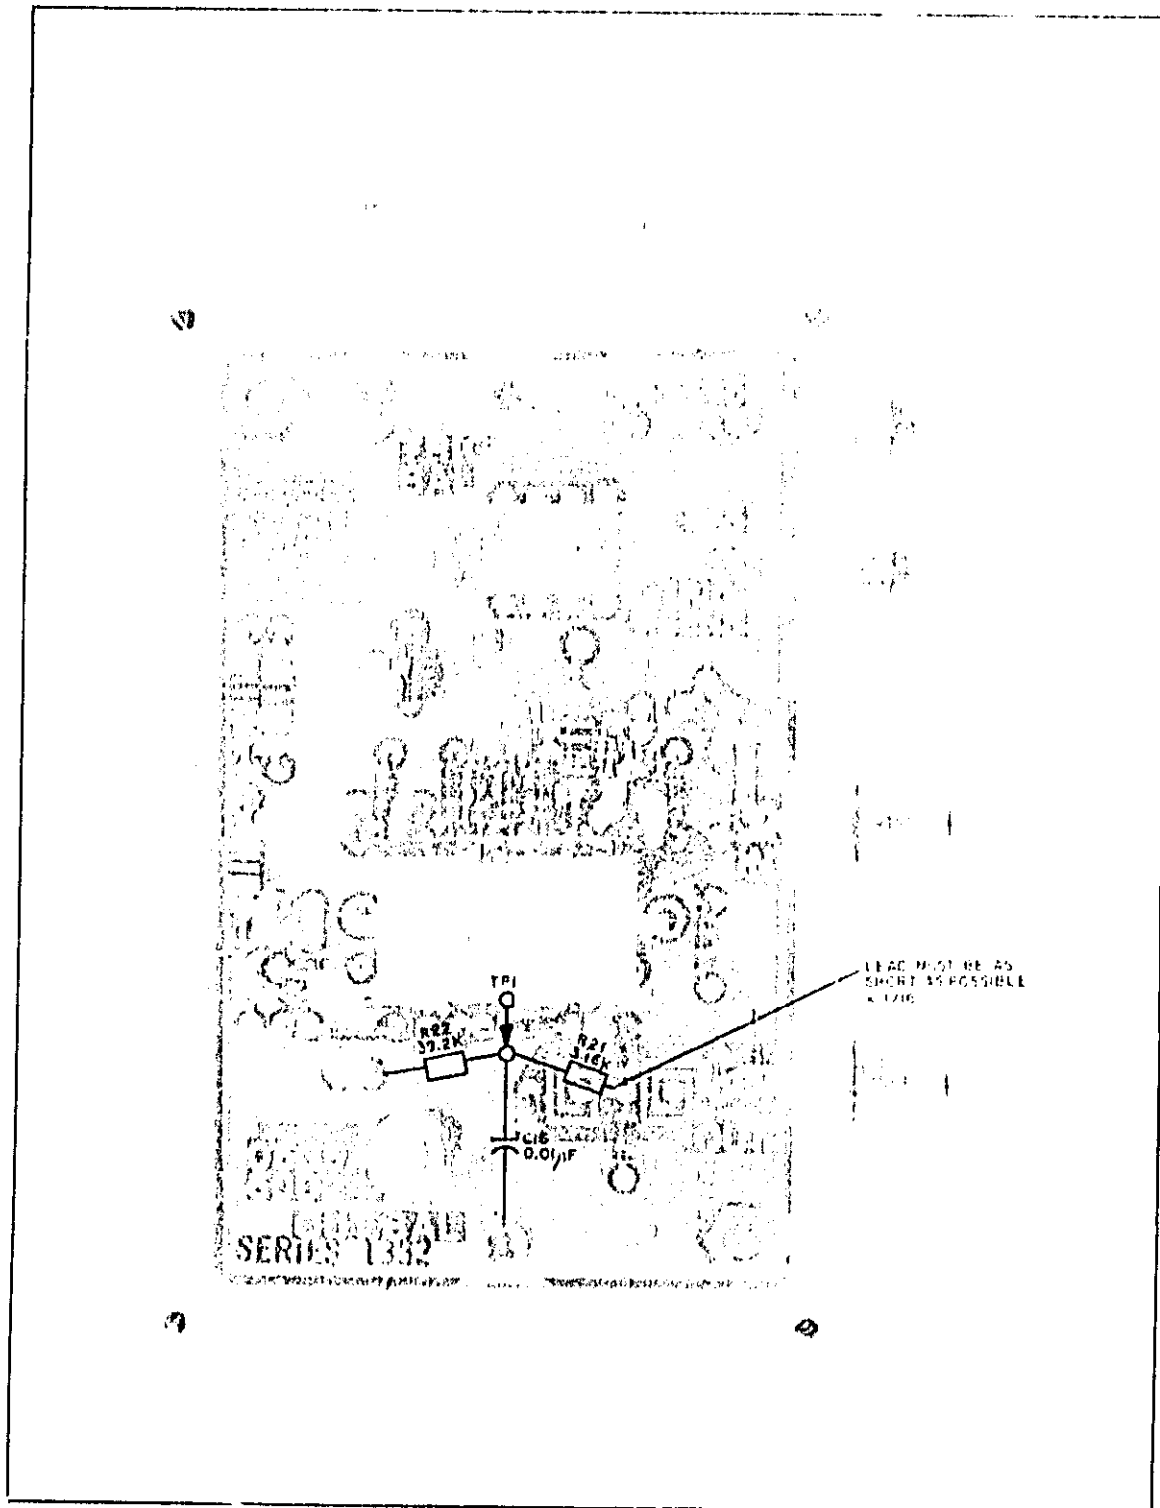

Figure 5-2. Test Point Addition
3. Solder the 1/16" lead of R21 to the junction of A15L1, L3, and R20. (See Figure 5-2.)
4. Solder R22 (39.2K) to C13 (+5V side). (See Figure 5-2.)
5. Wrap one lead of C16 (0.01 μ f) around fastening screw to ground. (See Figure 5-2.)